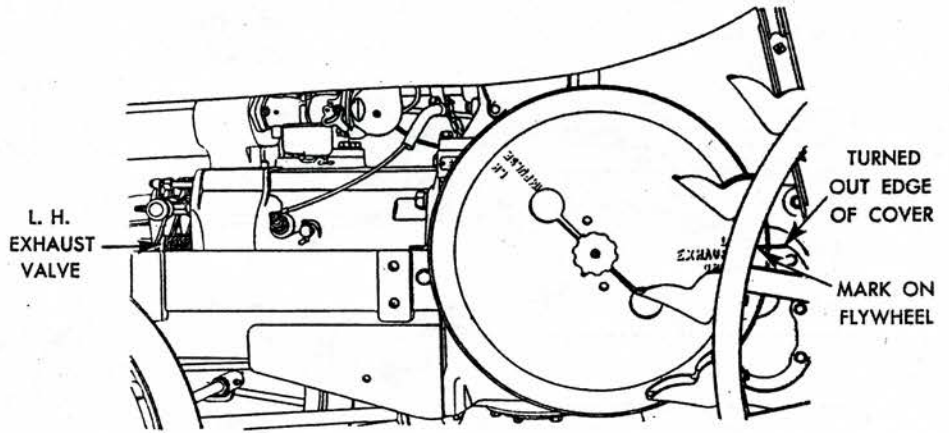

Fig. 9 Valve timing. Models AO, AR
**MODELS AO, AR**—To check valve timing, first adjust the tappets to the proper clearance. Then turn the top of the flywheel forward (counter-clockwise) until the exhaust valve of the left-hand cylinder (viewed from the driver's seat) just starts to open. At this point, the flywheel timing mark (L. H. EXH. OPEN) should be in line with or within 1/2" of the turned-out edge at the top of the sliding gear shaft cover, Fig. 9.